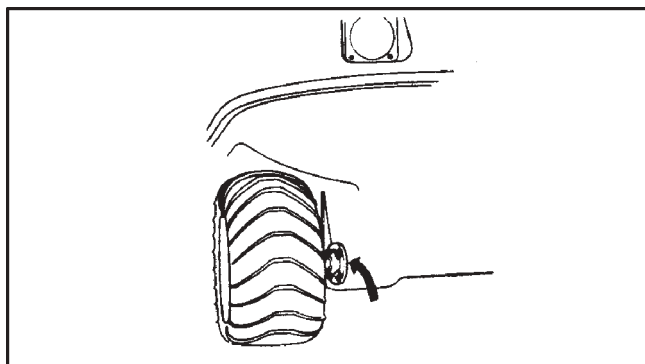

Figure 5-3 Outer bearing flange sealing area
6. Periodically inspect the outer bearing flange and gaskets of each axle (Figure 5-3) to ensure they are water tight. If there are signs of water leaking into the lower body, take corrective action before entering water again. Make sure there is sufficient grease in the bearing flange and that the grease seal is in good condition.